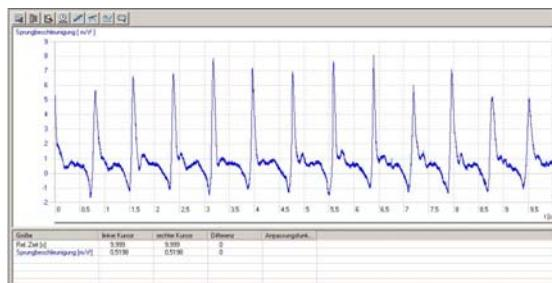

Fig. 1 Typical acceleration behaviour at the ankle of a skipping person, recorded with the 3B NETlab™ (U11310)
In Figure 1 it can be seen that, in addition to the skipping acceleration signal, there is a constant gravitational acceleration of 9.81 m/s^2 , resulting in a background value of $1g$.
- Simultaneously start the recording of an experimental data curve in 3B NETlab™ (Fig. 1).